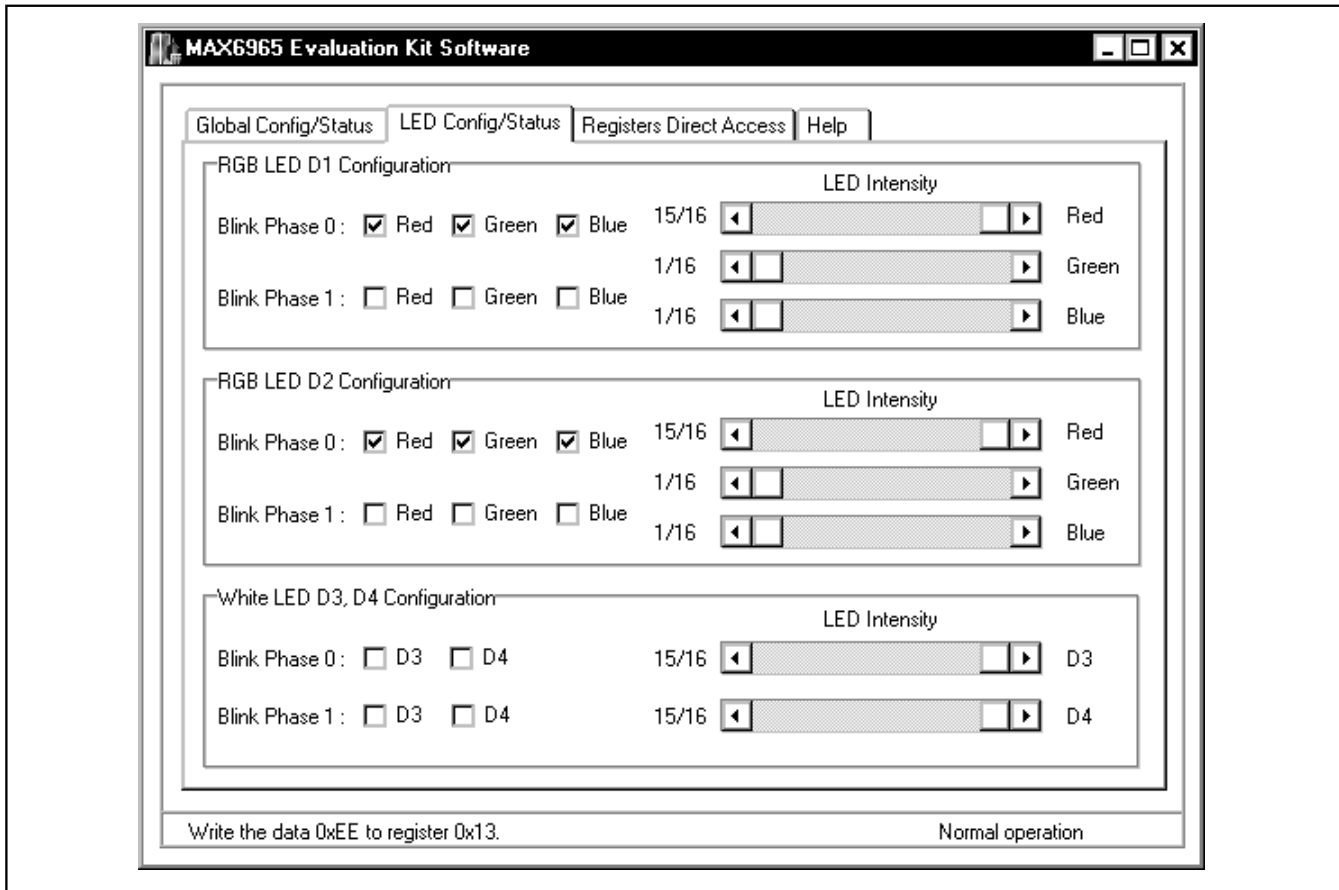

Figure 2. LED Config/Status Tab
- 12) Switch to tab **LED Config/Status**. Click the **Red**, **Green**, and **Blue** checkboxes at the right of the **Blink Phase 0** labels as shown in Figure 2. Observe the change of D1 and D2 on the EV kit board.
The **LED Config/Status** tab shown in Figure 2 contains the **RGB LED D1 Configuration**, the **RGB LED D2 Configuration**, and the **White LED D3, D4 Configuration** group boxes. These three group boxes represent the blink phase 0, blink phase 1, and output intensity registers. They directly control LEDs D1, D2, D3, and D4.